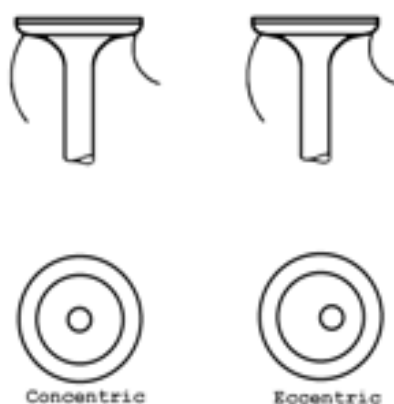

Fig.26
- The face of the valve must be concentric with the stem if the valve is to fit snugly into the valve seat and to have an absolute leak proof contact (Fig. 26).